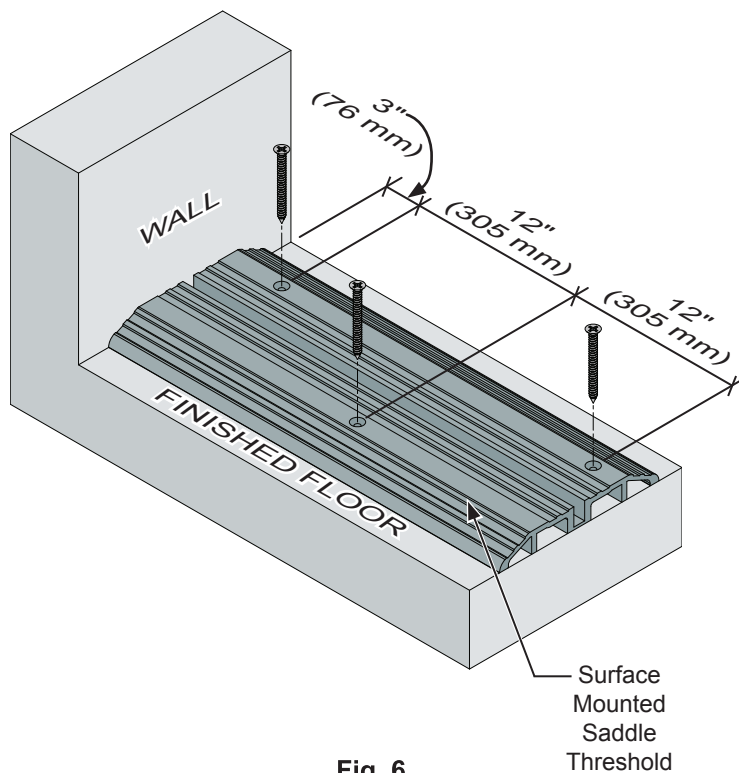

Fig. 6
1. The surface mounted saddle threshold is fastened with masonry screws at 12" (305 mm) on center and 3" (76 mm) from the wall onto the floor, positioned directly under the center of the top track. **(Fig. 6)**